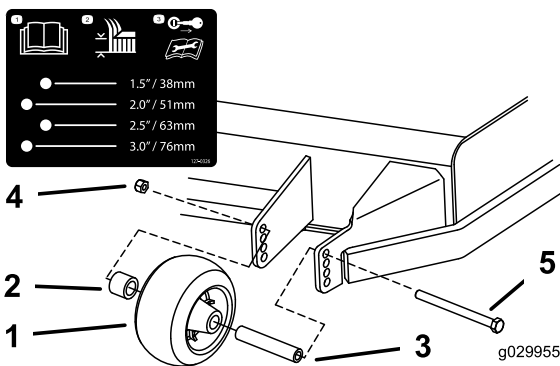

Figura 37
3. Reglai rolele anti-scalp conform Figura 37.